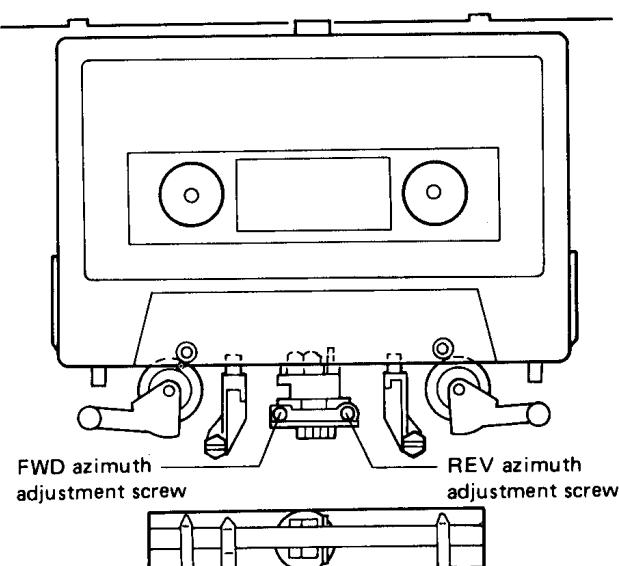

Fig. 13-4 Head azimuth adjustment
| NORM          | PLAY | Play 10kHz—20dB portion of STD-331B test tape. | Head azimuth adjustment screw.(Fig. 13-4) | TP1 (L)TP2 (R) | Maximum playback signal level. | Apply "screw-lock" after completing adjustment. |